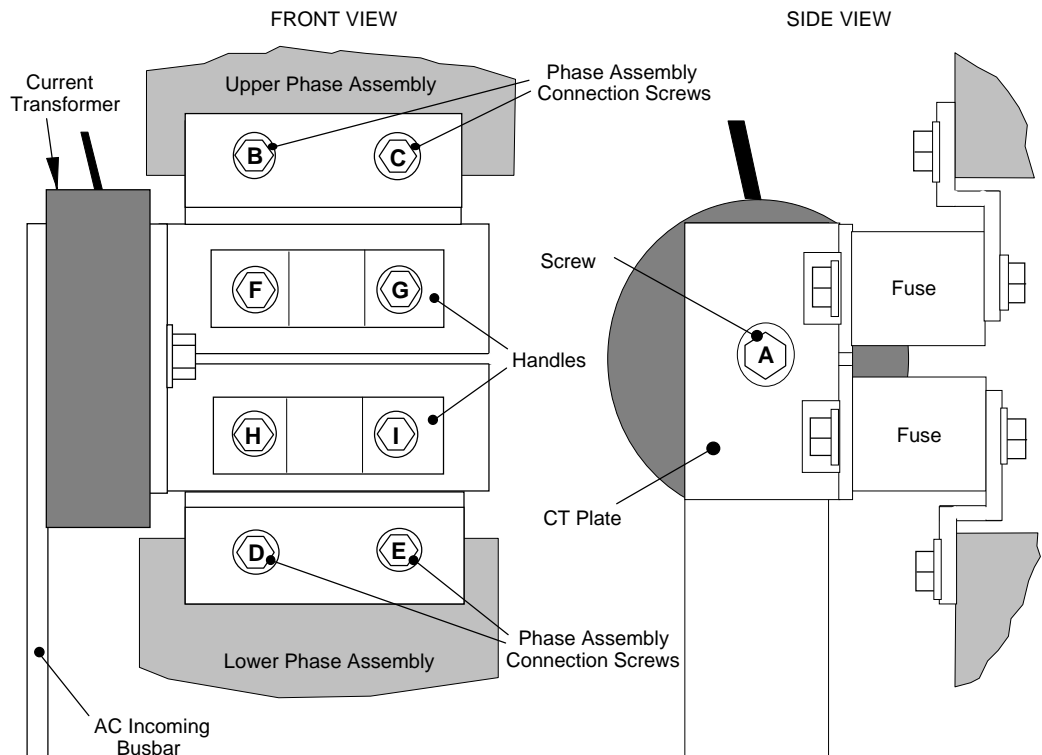

Figure 5-1 590H Fuse Replacement Diagram
1. Referring to Figure 5-1 (590H) or Figure 5-2 (591H), remove the M12 screw (A). Undo the four screws (B, C, D, E) which allows the CT plate and fuse assembly to be removed.